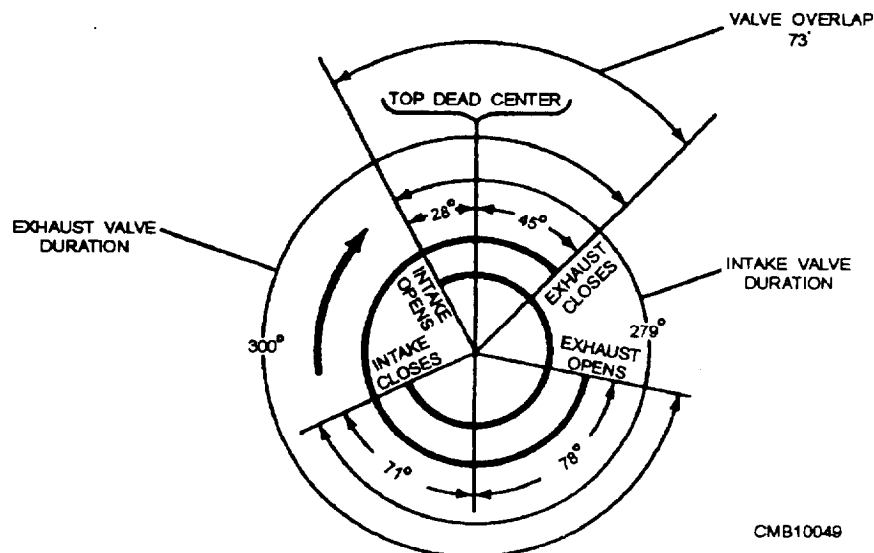

Figure 2-29.—Valve timing diagram showing valve overlap,
3. Valve overlap (fig. 2-29) is a period in a four-stroke cycle when the intake valve opens before the exhaust valve closes.